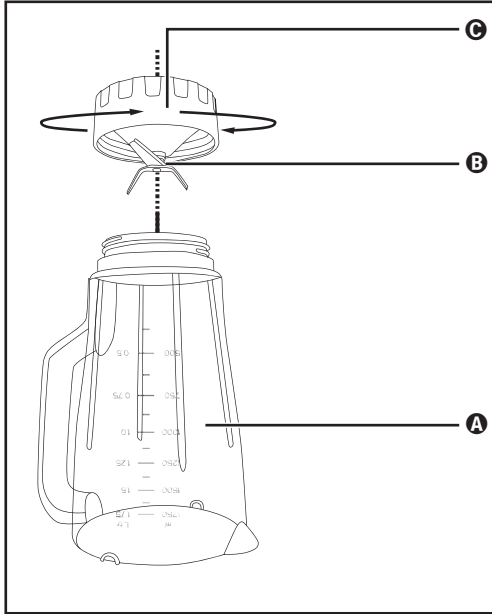

Fig. 3
- 2) Turn the appliance upside down and turn the lower plastic part **C** of the blender **3** anticlockwise so that it can be removed from the upper plastic part **A** of the blender **3** (see fig. 3).